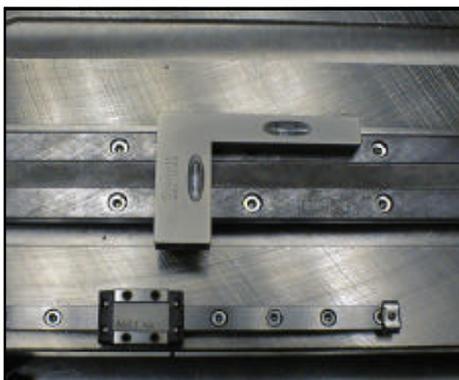

Figure 2-8. Bubble level on stage.
- 1) When the height and tilt of the detector are aligned, place a bubble level on the 2 θ -stage and mark the bubble location on the level, Figure 2-8.